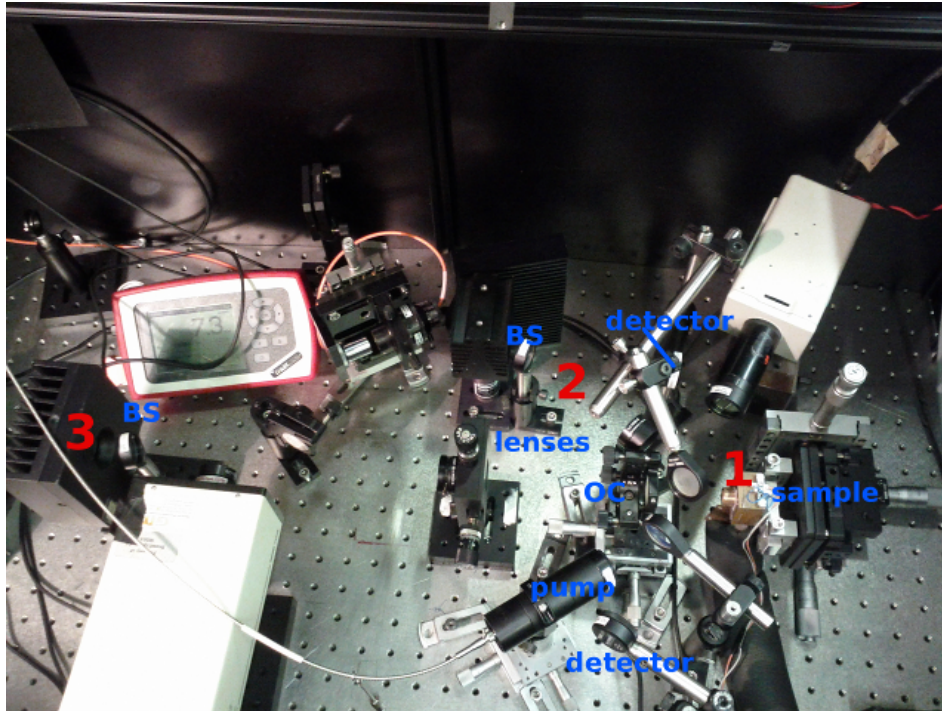

Figure 3.1: In order to calibrate the setup we have to measure the actually present power at the indicated positions 1–3.
Figure 3.1 shows a photograph of the setup. Before we can use it to characterize samples, we have to characterize the setup first. Following the beam path, we start with the lens system indicated as *pump*. This input beam is targeted at the sample. Part of this pump beam is sampled by a beam sampler (BS), a glass plate with high damage threshold and anti reflective coating on one side. This sampled light is directed towards a detector. The pump light is reflected off the sample, collimated by a lens, and again sampled as for the input. The lasing output passes the output coupler (OC), a collimating lens, and another beam sampler (coated for the emission wavelength). This beam sampler we eventually use to record the spectrum of the emission.
Between these measurements you move only the thermal power meter to the different positions indicated in Fig. 3.1. Do not touch the other equipment! With this procedure we gauge the photo detectors (after beam splitters to protect from high power) to the thermal power meter. When placing the thermal power meter, you have to make sure the exposure is below its damage threshold. A Thorlabs thermal power meter S314C, for example, has a power range limited up to 40W.